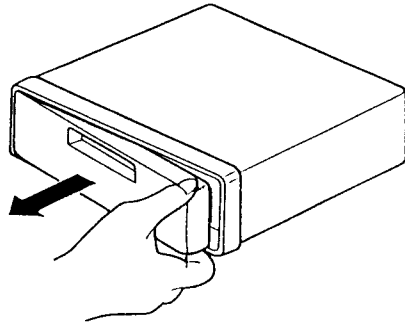

Fig. 11
2. To remove the front panel, pull its right-hand side toward you. (Fig. 11)